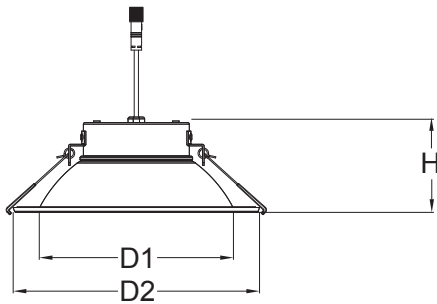

Fig. 1
- A. Remove existing retrofit can if present or move it out of the way since it will not be needed for installation. (Fig. 1)